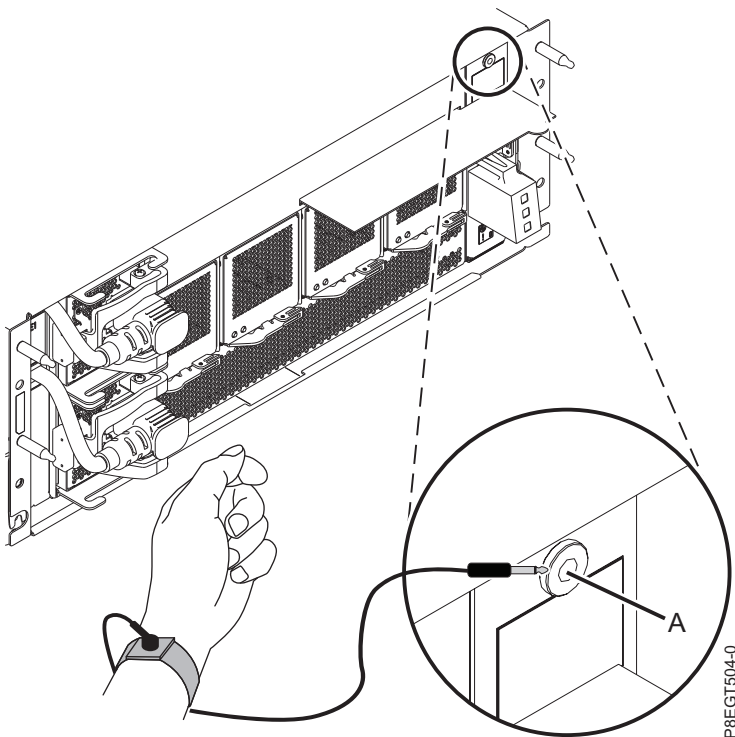

Figure 2. Attaching the ESD wrist strap to the front ESD jack
5. Attach the electrostatic discharge (ESD) wrist strap. Your system has an ESD jack. Plug the ESD wrist strap into the ESD jack that is at the front of the system. See Figure 2.